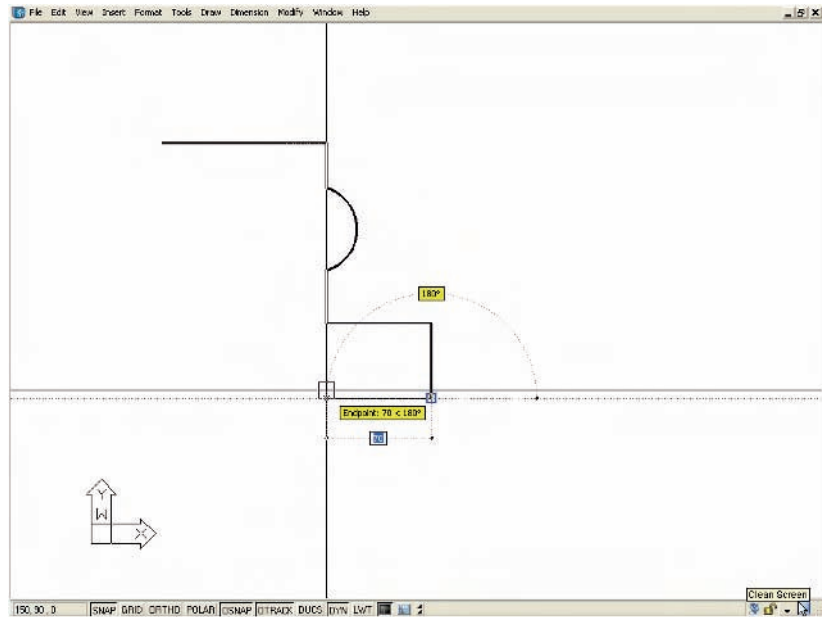

Fig. 3.20 Example – **Polyline Edit**
1. A *click* on the **Clean Screen** icon in the bottom right-hand corner of the AutoCAD 2007 window produces an uncluttered workspace area with only the menu bar (Fig. 3.20). The command palette can also